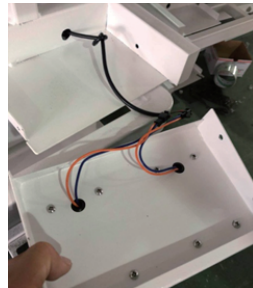

Figure 3
- Disconnect the control cable connector from the motor control unit. (See Figure 3)